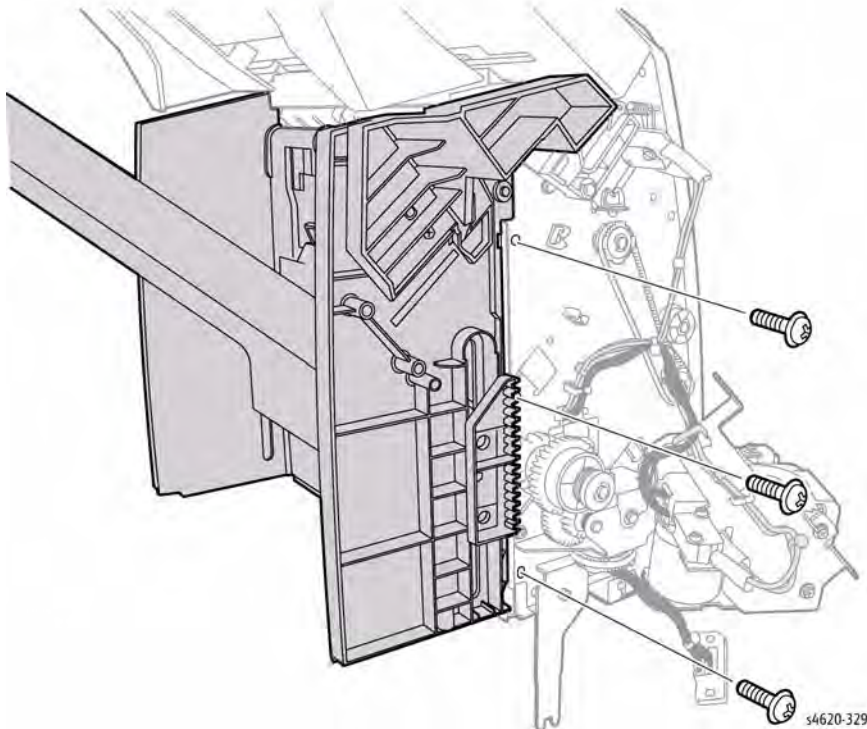

Figure 3 Remove the Stacker Shield Assembly
7. Remove 3 screws (plastic) that secure the Stacker Shield Assembly to the Finisher, Figure 3.